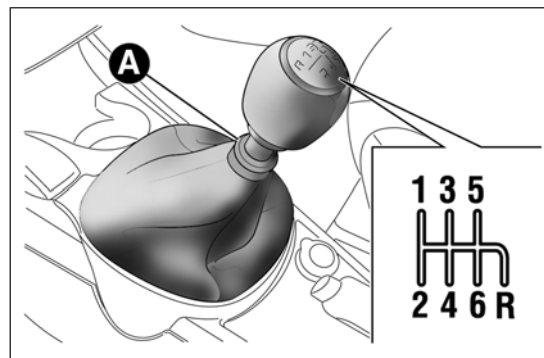
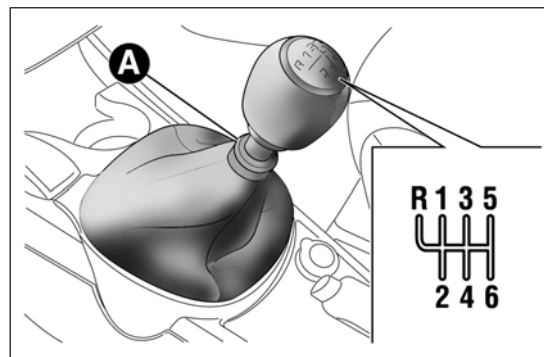
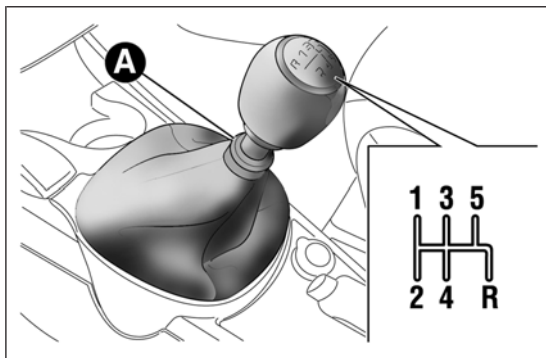

fig. 109
fig. 110
fig. 111
To engage the gears, fully depress the clutch pedal and put the gear lever into the desired position (the diagram for gear engagement is shown on the knob fig. 109, fig. 110, fig. 111).
- on 1.4 Turbo MultiAir 170 HP Quadrifoglio Verde and 1.6 JTD_M versions, move the lever to the left and then forwards fig. 110;
- on Turbo TwinAir, 1.4 Petrol, 1.4 MultiAir, 1.4 Turbo MultiAir and 1.3 JTD_{M-2} versions, move the lever to the right and then backwards fig. 109 and fig. 111.